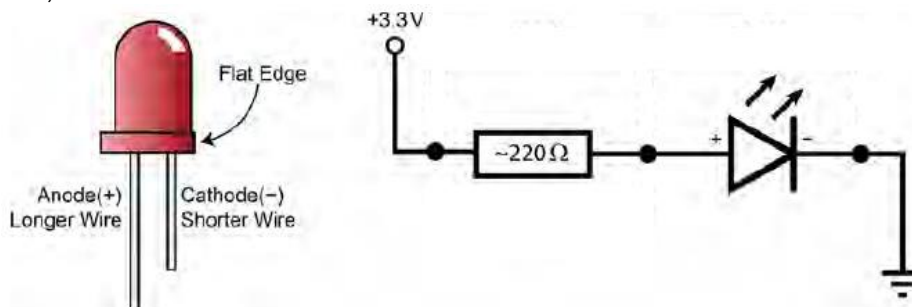

Figure 1 : red LED and simple circuit with current limiting resistor
6. Wire the circuit shown in Figure 1 with a red LED. What is the voltage drop across LED?